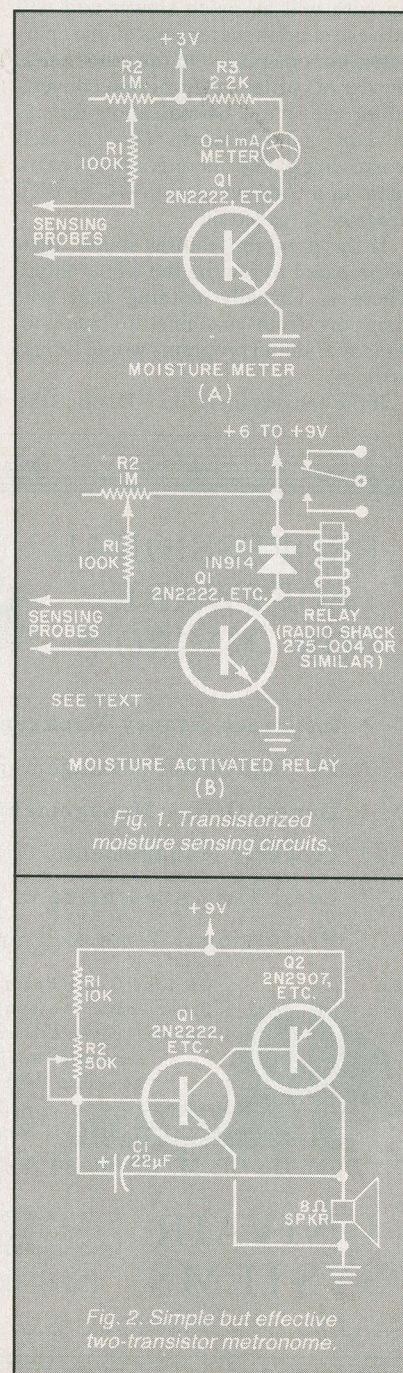

Fig. 2. Simple but effective two-transistor metronome.
**A Two-Transistor Metronome/Tone Source.** Figure 2 shows a simple metronome circuit that, together with its two transistors and a speaker, includes only
Many common silicon switching and small-signal transistors can be used for *Q1* and *Q2* in Fig. 2. The click rate can be adjusted by adjusting *R1* or changing *C1*'s value. Since the transistors have leads rather than pins, it's easy to build this circuit on a small perforated board.